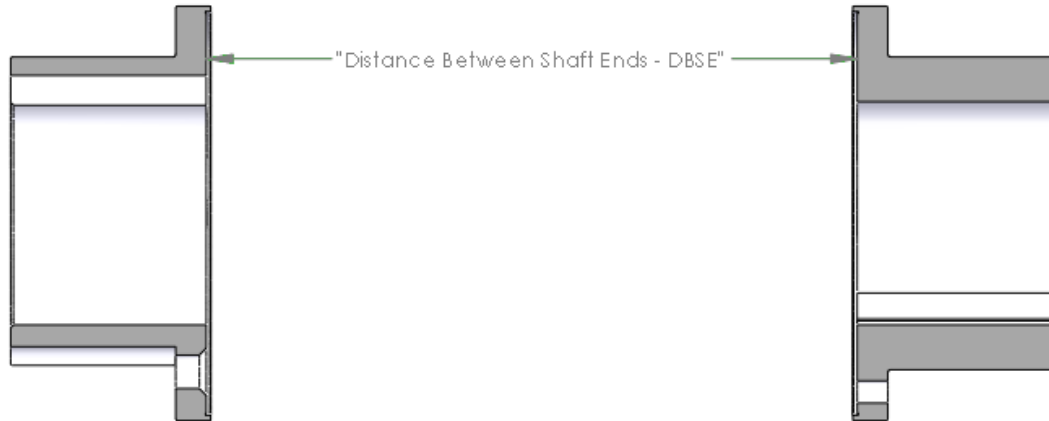

Figure 2 – Mounting Hubs on Shafts
- a) Verify that the hubs have been mounted as shown in Figure 2 to provide the correct "C" length. The "C" length is the distance measured between the faces of the two mounted hub flanges.